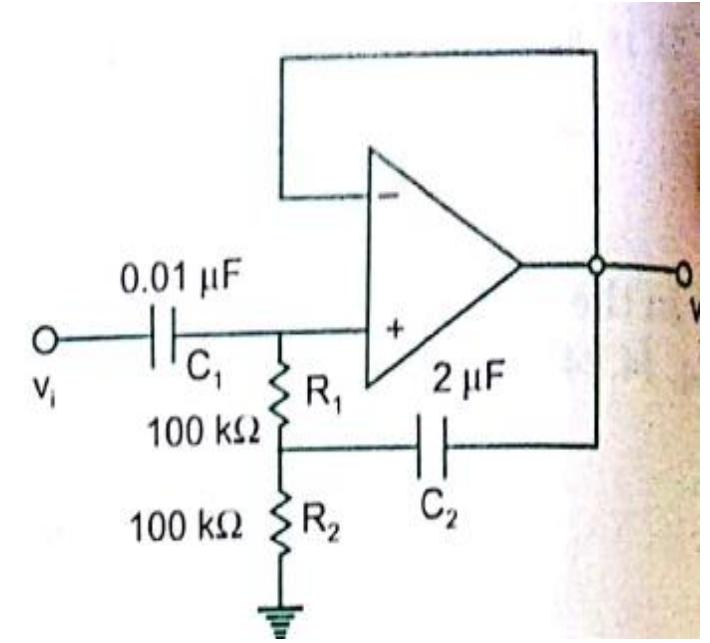

Fig.8. AC Voltage follower
- The circuit of practical ac voltage follower is shown in Fig.8.